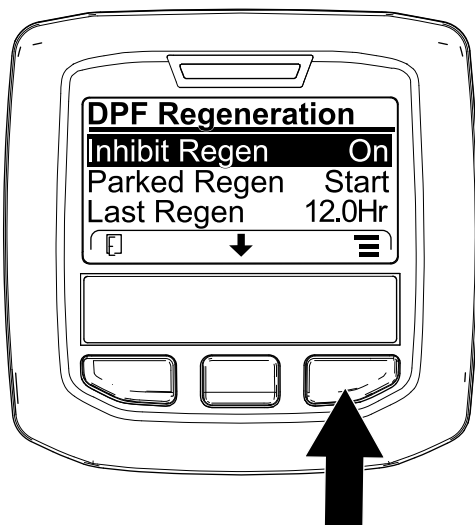
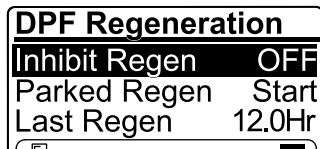

Figure 48
Figure 49
1. Access the DPF Regeneration menu, press the center button to scroll down to the INHIBIT REGEN option, and press the right button to select the Inhibit Regen entry (Figure 48).
2. Press the right button to change the inhibit regeneration setting from On to Off (Figure 48) or from Off to On (Figure 49).